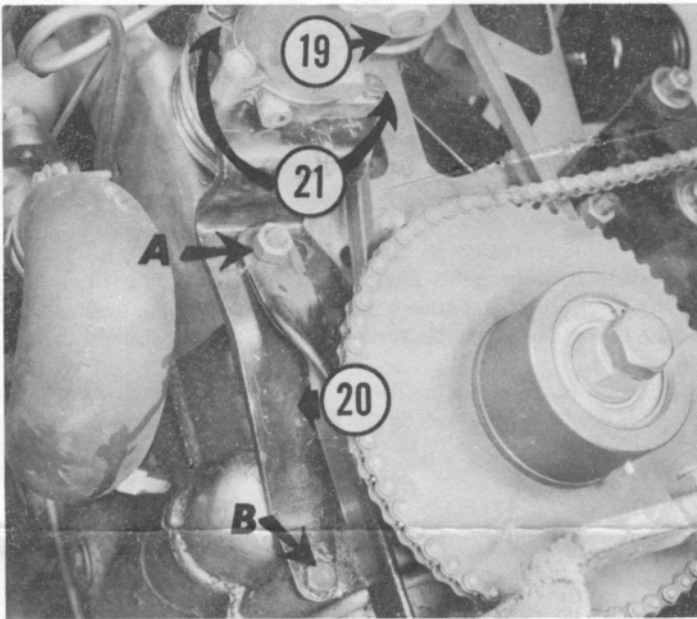

Figure 1
3. Remove Capscrew (B in Figure 1) from Crankcase, and Nut and Lockwasher (A in Figure 1) from Fan Housing.
4. Install Governor Bracket with Governor. Replace Crankcase Capscrew (B in Figure 1). When installed correctly, Governor Lever lies horizontally at top of Governor.
6. Move Bracket to make Governor Pulley bear firmly on Fan Belt. Avoid excessive Belt pressure. Secure Bracket with Nut and Lockwasher (A in Figure 1).